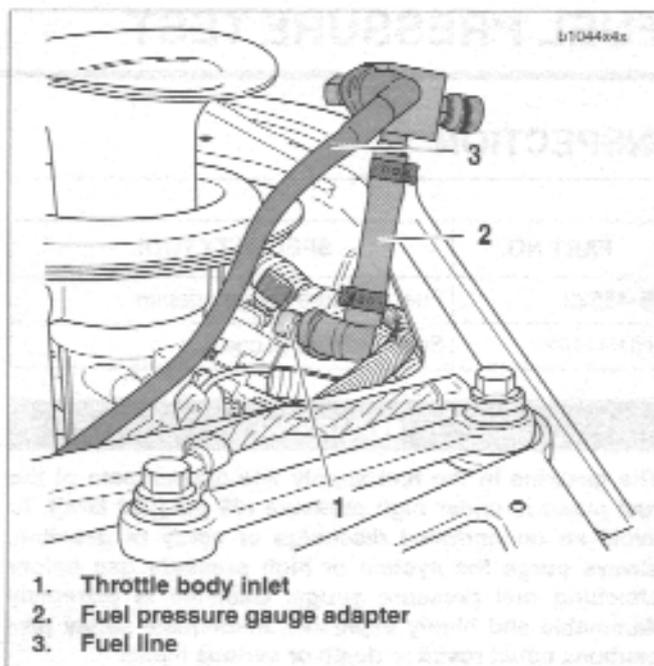

Figure 4-28. Fuel Pressure Gauge Adapter
4. See Figure 4-28. Attach FUEL PRESSURE GAUGE ADAPTER (Part No. B-45522) (2) to throttle body inlet (1).
5. Connect the fuel line (3) to fuel pressure gauge adapter.